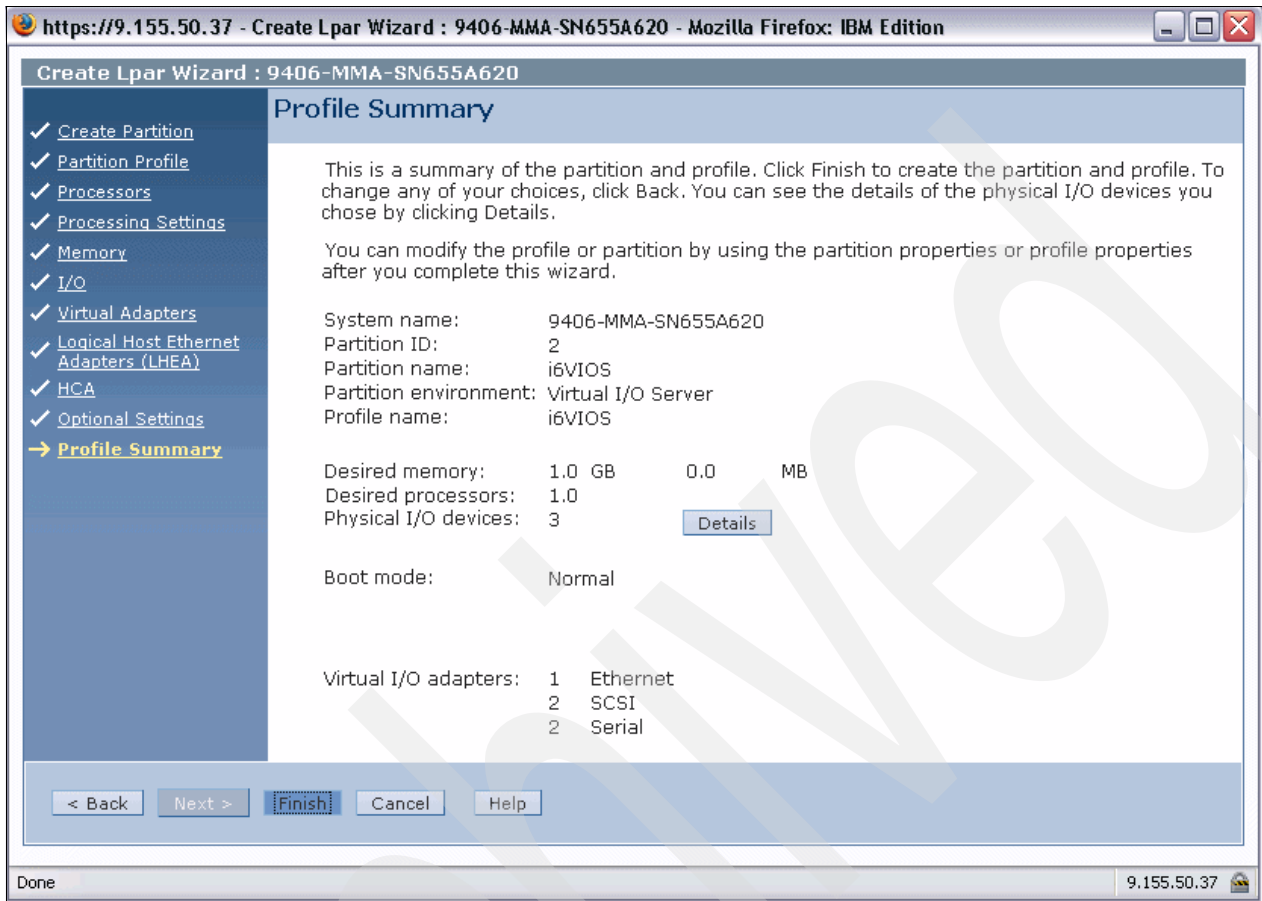

Figure 6-20 Create LPAR Profile Summary
18. We review the information in the Profile Summary dialog shown in Figure 6-20 and select **Finish** to finally create our new VIOS partition.